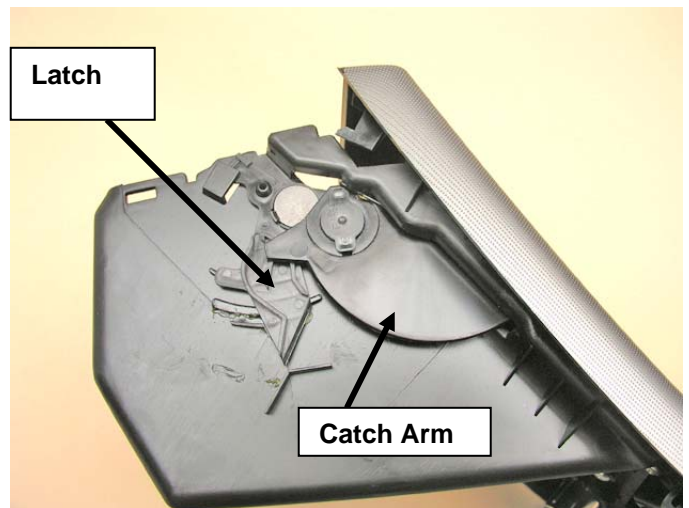

Figure 5
- c. Then, close the Front Lid and make sure its Catch Arm properly engages the Latch (see Figure 5).